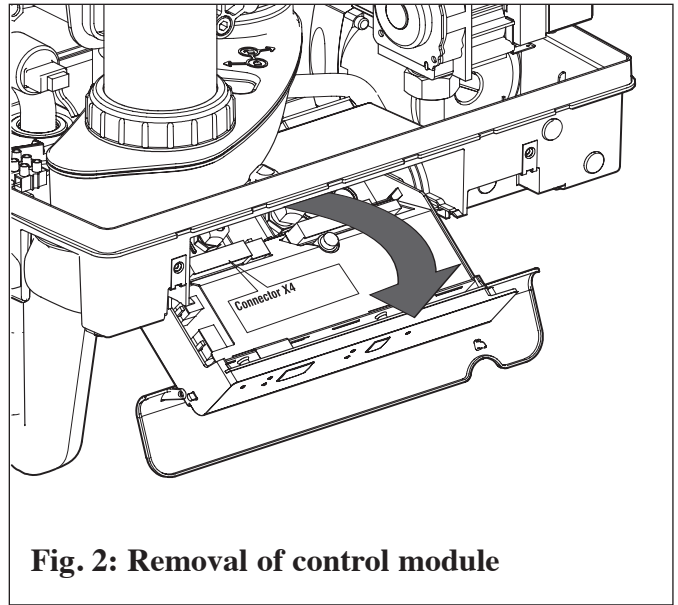

Fig. 2: Removal of control module
4. Pull the Control Display Module tray out from the bottom jacket panel and swing the tray downward. The guide pins on the tray should disengage the bottom panel (Fig.2).